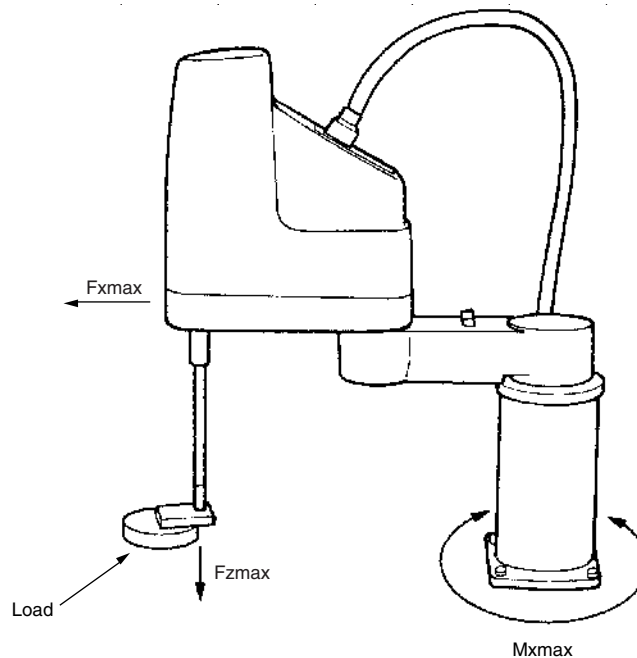

Fig. 3-1 Maximum reaction force applied during operation
- 1) Prepare a sufficiently rigid and stable installation base, taking account of the robot weight including the end effector (gripper), workpiece and reaction force while the robot is operating. The maximum reaction force (see Fig. 3-1) applied to the X-axis and Z-axis of each robot during operation is shown in the table below. These values are an instantaneous force applied to the robot during operation and do not indicate the maximum load capacity.